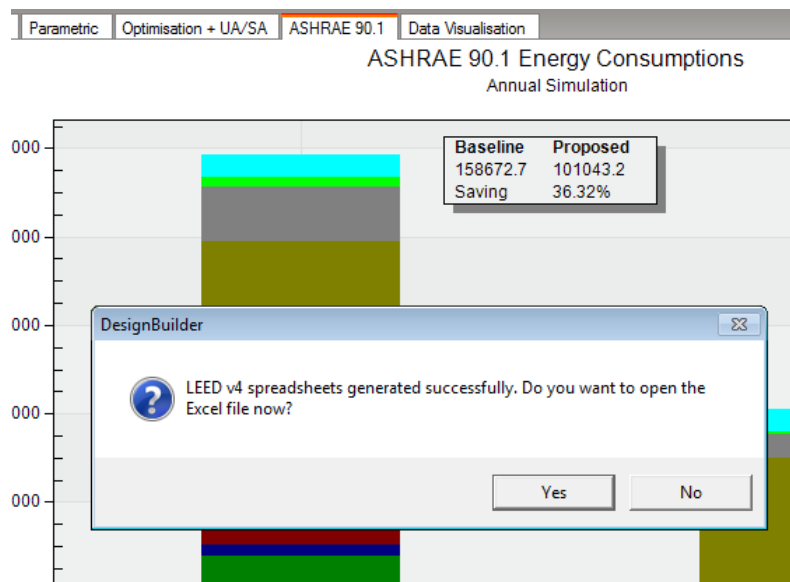

Figure 3. LEED MEPC spreadsheets generated successfully (example of 4.0 version)
- After successfully generating the data in spreadsheets, DesignBuilder offers to open the MEPC that has just been generated (Figure 3). You can revisit it anytime from the directory you specified in the last steps.